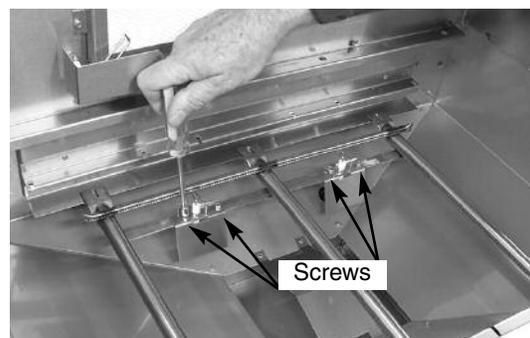

Fig 4
4. Remove the two screws holding each ignitor in place. (See Fig. 4)
24. Reattach the ignitors and their heat shields, removed in step four (4), to the burners. (See Fig. 4, on page 1)